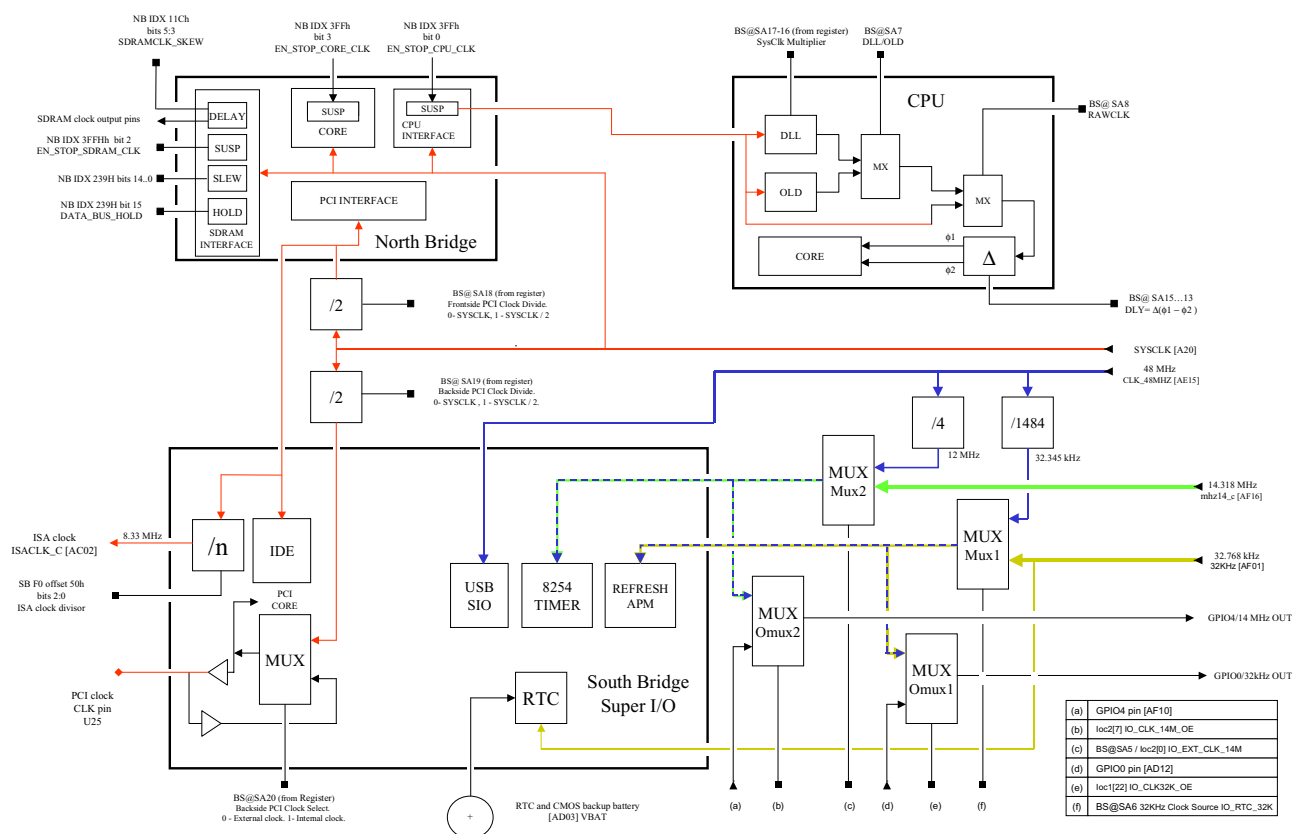

Figure 5-9 System Clocking and Control
- See Table 4.8 "GPIO Interface Signals" on page 177, and see Figure 5-9 "System Clocking and Control" on page 437 (and the figures following in this section).